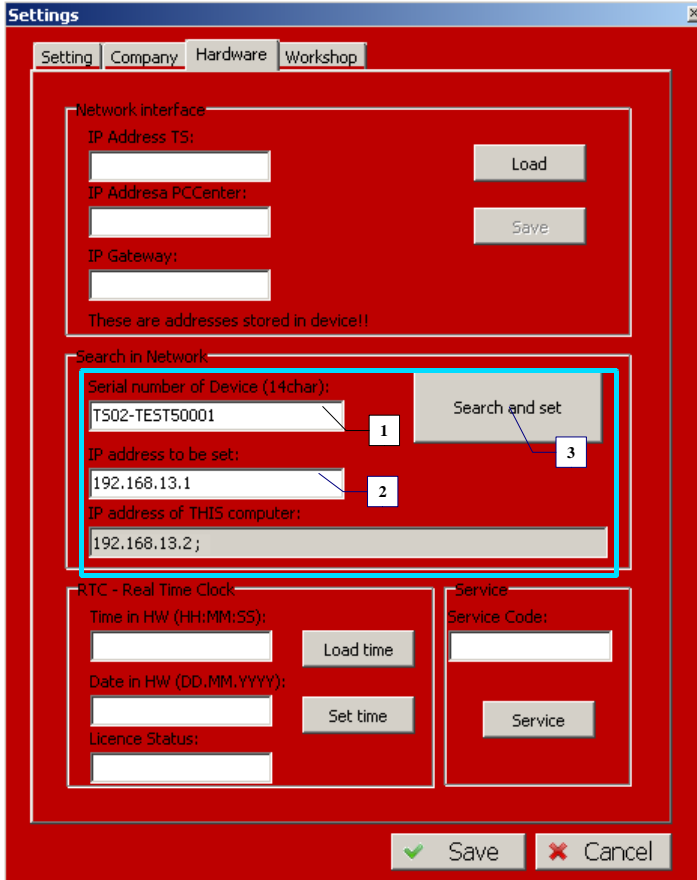

Figure 3.8
Every Troodon interface has a serial number in format TS02-TEST50001. Fill in the serial number in the window (1) in the Hardware tab (Figure 3.8).
If you don't know the device's serial number, fill only TS02\* in the window (1) in Figure 3.8. In this case the address of all Troodon interfaces in the network will be set.